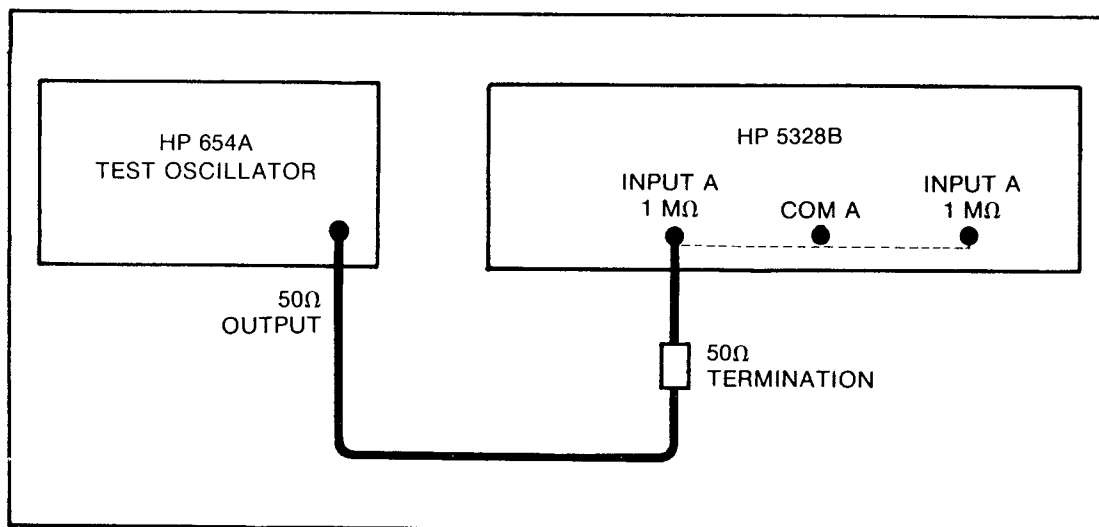

Figure 4-9. Channel B Frequency Response and Sensitivity Test Setup, 10 Hz to 10 MHz
- 1) Set up equipment for this test as shown in *Figure 4-9*.